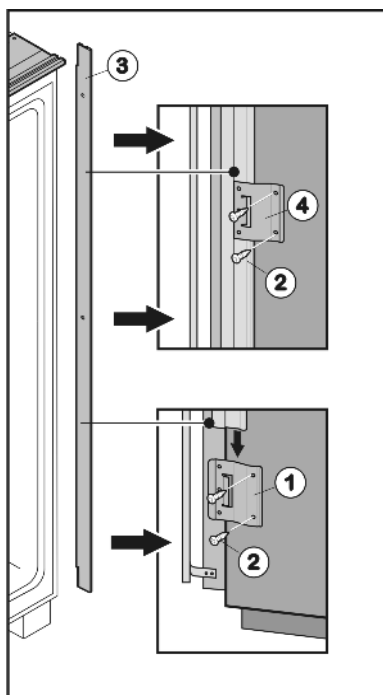
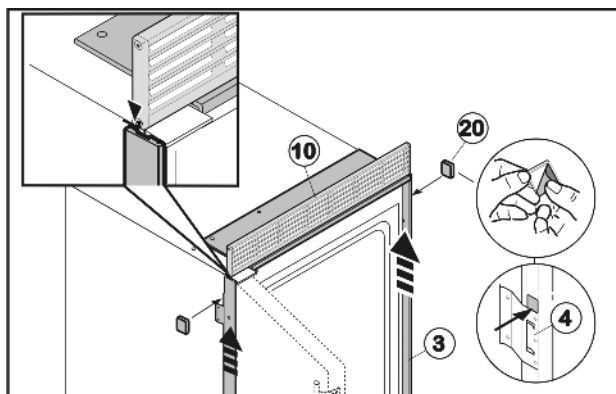
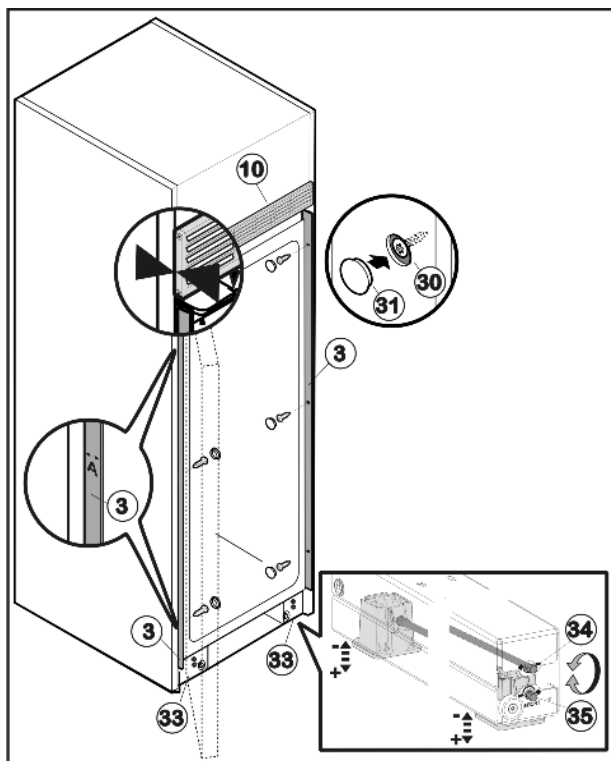

Fig. 45
Fig. 48
Fig. 49
- Fit retaining plate Fig. 45 (1) to the lower part of the handle side by inserting two screws Fig. 45 (2) into the pre-cut holes.
- Slide installation strip Fig. 45 (3) into the retaining plate Fig. 45 (1) from above.
- Push second retaining plate Fig. 45 (4) onto the installation strip Fig. 45 (3) from above and screw to the center of the side wall.
- Push third retaining plate Fig. 45 (4) onto the installation strip Fig. 45 (3) from above and screw to the top part of the side wall.
- ▶ Remove adhesive tape from the side installation strip Fig. 48 (3).
- ▶ Push installation strip Fig. 48 (3) upwards until it is touching the ventilation grille Fig. 48 (10).
- ▶ Glue the adhesive plates Fig. 48 (20) above the retaining plate Fig. 45 (1) and the retaining plates Fig. 48 (4) respectively to the installation strip Fig. 48 (3) such that it cannot slide downwards.
- ▶ Push the appliance into the recess until the rear edge of the ventilation grille Fig. 49 (10) is flush with the front edge of the side wall of the cabinet.
- ▶ Align appliance inside the recess above the roller bases Fig. 49 (33) using a spirit level: Use upper adjustment setting (1/4") Fig. 49 (34) for the rear adjustable foot and lower adjustment setting (1/4") Fig. 49 (35) for the front adjustable foot respectively. Turn clockwise to raise and counterclockwise to lower. Maximum adjustable height: 5/8 in (16 mm).
- ▶ At the top and bottom of the recess check the gap A between the front edge of the installation strip Fig. 49 (3) and the front edge of the side wall of the unit. It must be 1/2" (13 mm). Realign the appliance in the recess if required.
- ▶ Secure appliance inside the recess using three screws Fig. 49 (30) on the handle side and the hinge side respectively. Do not scratch the side installation strip Fig. 48 (3) when doing so.
- ▶ Place cover caps Fig. 49 (31) over the screws.